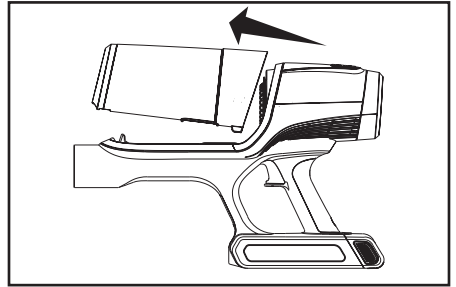

Fig. 2
2. Gently remove the dust cup by pulling it away from the main body (Fig. 2).